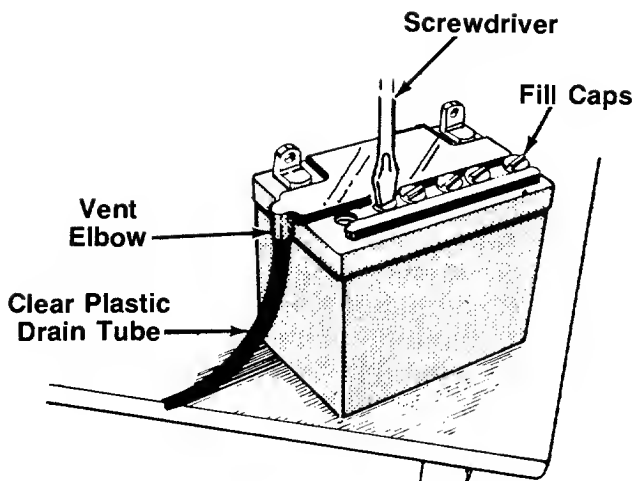

FIGURE 1.
- ← 3. Remove the six fill caps from the top of the battery with a screwdriver. Be careful not to damage the fill caps. See figure 1.